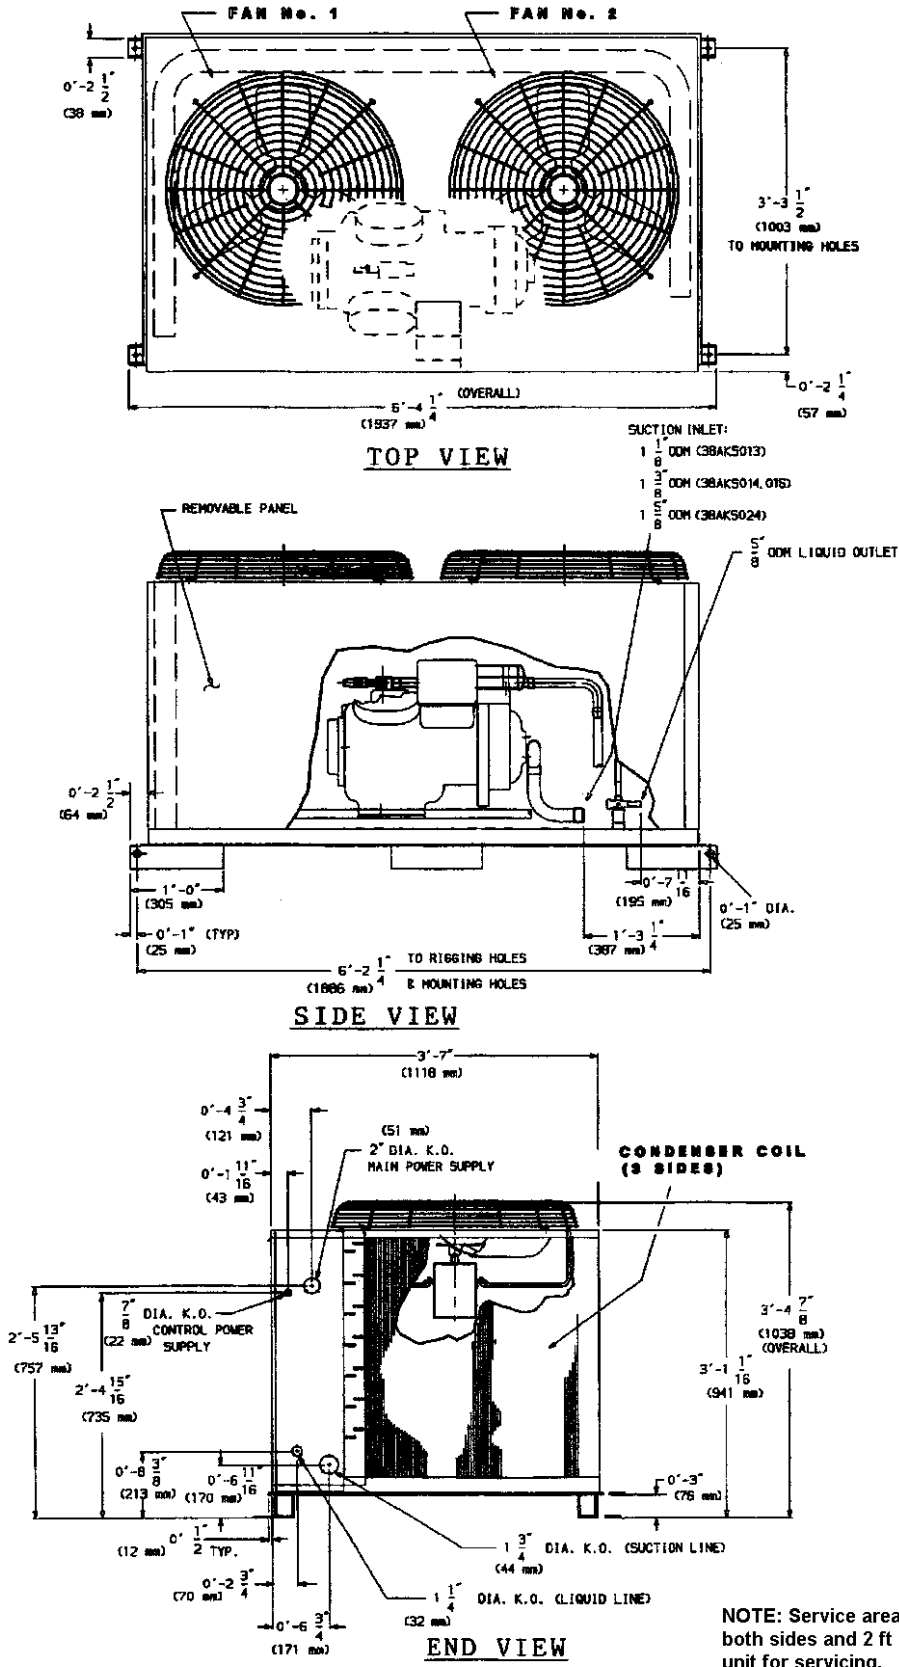

Fig. 1 - Dimensions
Only trained, qualified installers and service mechanics should install, start-up, and service this equipment (Fig. 1 to Fig. 4).
- Allow sufficient space for airflow clearance, wiring, refrigerant piping, and servicing unit. See Fig. 1 to Fig. 3 for unit component locations.